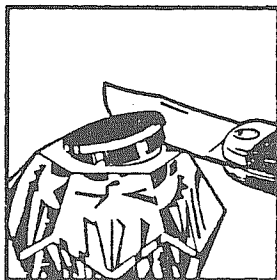

Figure 10
2. Remove handle button (1). Remove screw (2) and lift off handle (3 or 4). Fig. 10.